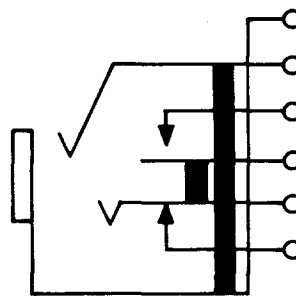

Fig. 9—363-Type Jack
2.09 **363A, C, and CM:** These single-mounted jacks (Fig. 9) are used with the 310 or similar-type plugs. These jacks are heavily insulated and are specially designed and adjusted for use in telegraph repeater equipments for limited service only. The 363-type jacks are recommended for general use. These jacks are intended to be mounted with the springs in a vertical plane. The 363CM jack is equipped with mechanically wrapped connections.